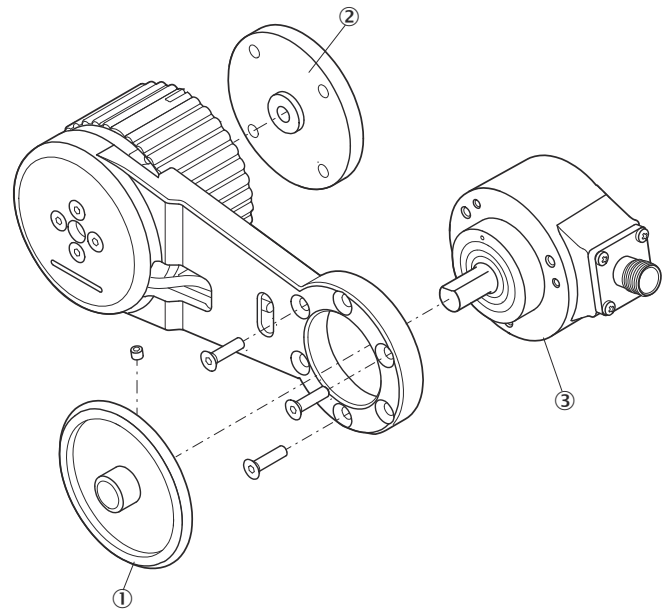
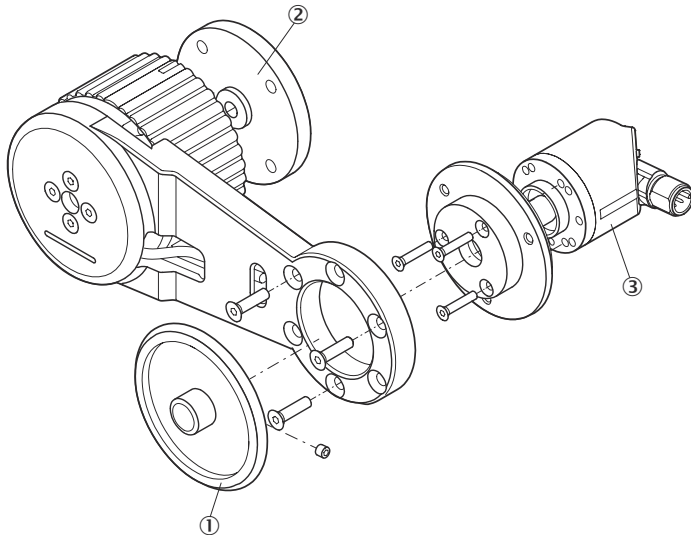

Figure 7: Mounting the encoder Ø 60 and wheel
Figure 6: Mounting the encoder Ø 36 and wheel
- To reach the screws, the adaptor plate (see figure 6) needs to be removed from the device locker.
- ▶ The installation of the measuring wheel is illustrated in figure 6 and figure 7. When installing the Measuring wheel, the wheel set screw needs to be secured with a torque force of 1.5 N. An additional screw locker glue can be added to prevent the loosening of the set screw.
- ▶ The device needs to be loosened from the adaptor plate. As shown in figure 6 and figure 7.
- The measuring wheel (see figure 7) is a wearing part. Wear depends on contact pressure, acceleration, total travel, speed of travel, and measurement surface.